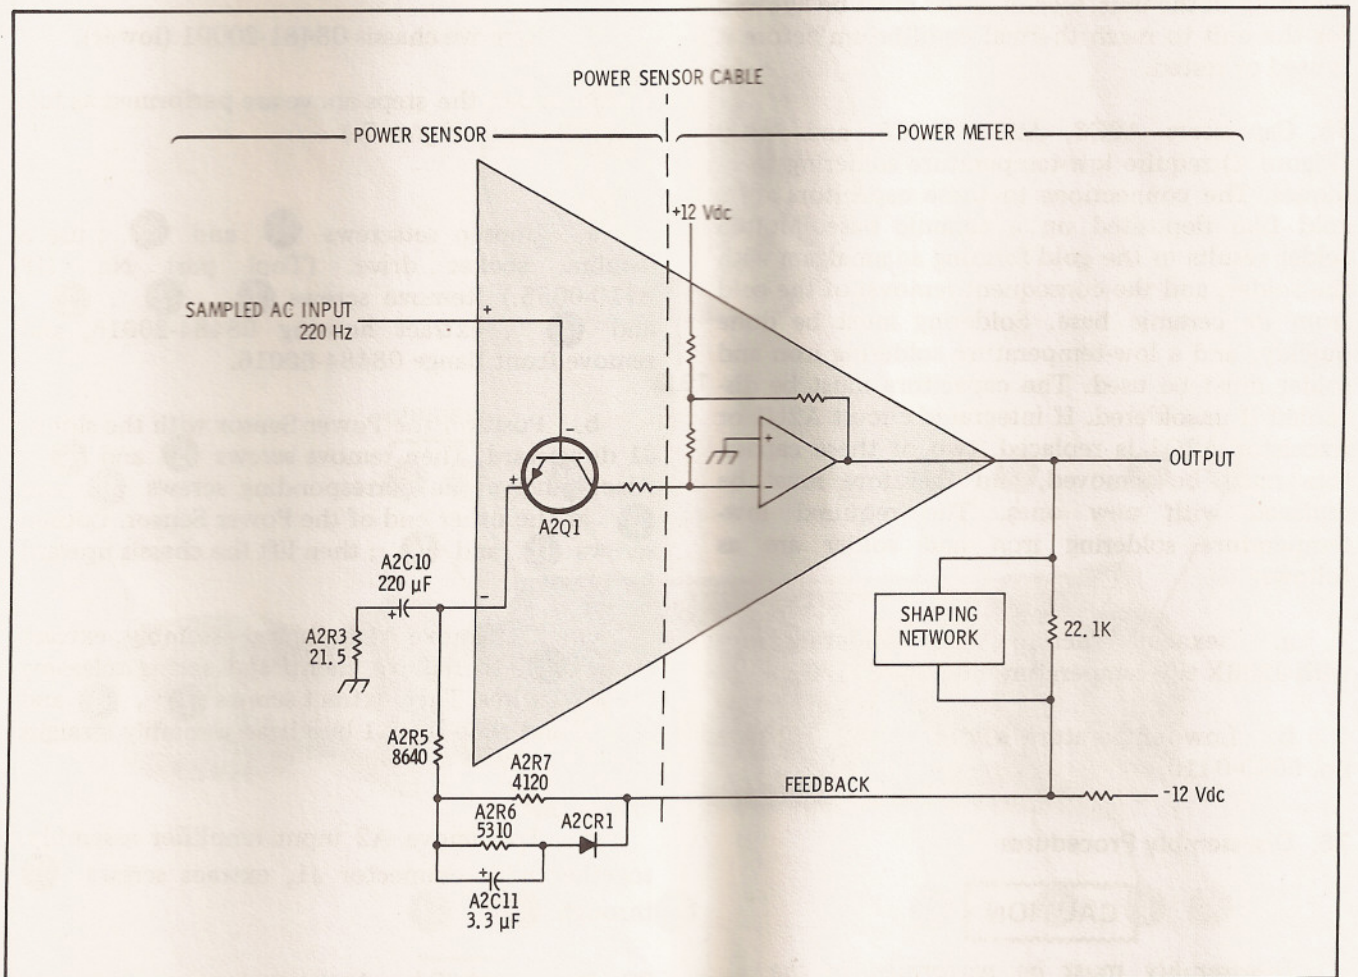

Figure 6. Operational Amplifier
60. The output of A2U1 is amplified about 1700 times by an operational amplifier made up of A2U2 and the first amplifier stage in the power meter. Figure 6 is a simplified diagram of the complete operational amplifier.
61. Resistor A2R5, A2R6, and A2R7 together with capacitor A2C11 and diode A2CR1, make up a shaping network. This network brings about a linear change in the amplitude of the square wave output as RF input power changes. A shaping network in the power meter (Figure 6) produces the same effect when a power sensor of the thermocouple type is used. (HP Model 8481A, 8482A,